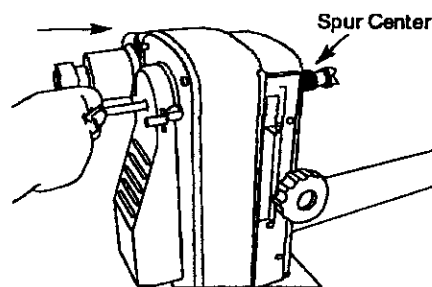

Figure 4 - Spur Center Removal
- To remove the spur center from the spindle, insert the center removal rod into the spindle and gently tap the center out. Refer to Figure 4.